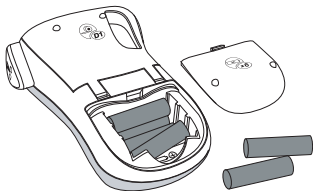

Figure 2
1. Slide the battery compartment cover away from the label maker. See Figure 2.